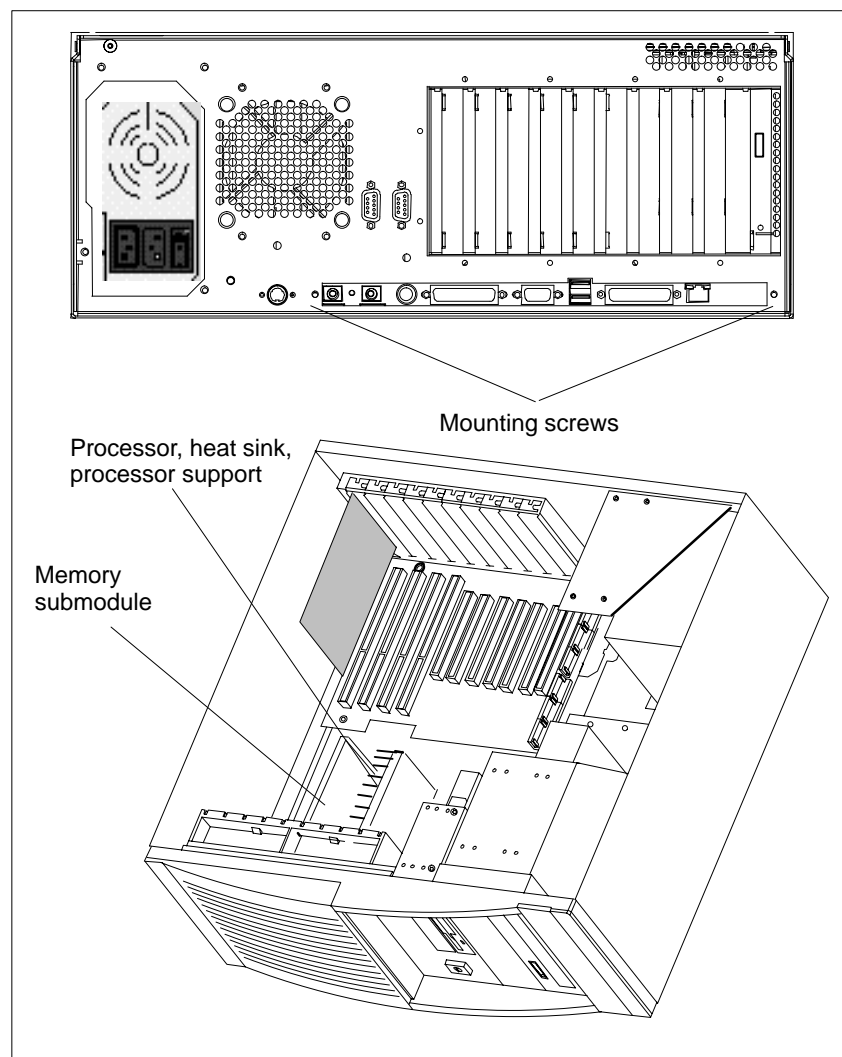

Figure 1-12 Removing the CPU Board
- Release the 2 screws at the back of the system unit (see arrows in Figure 1-12), then push forward the CPU board and its baseplate until it comes to a stop and lift it out. You can now remove the bus board if necessary.